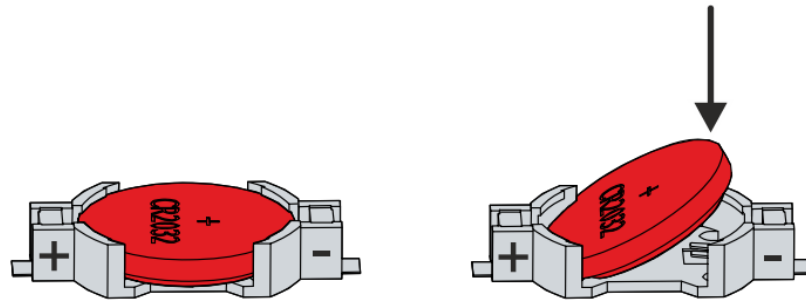

Figure 39. PLC Battery Change
- Lift the battery side out of the holder. The battery is now in an inclined position as shown in **Figure 39**.
- Insert the new battery with the correct polarity back into the inclined position on the positive pole of the battery holder. The correct polarity is shown in **Figure 39**.
- Push the protruding side of the battery into the battery holder as shown in **Figure 39**.